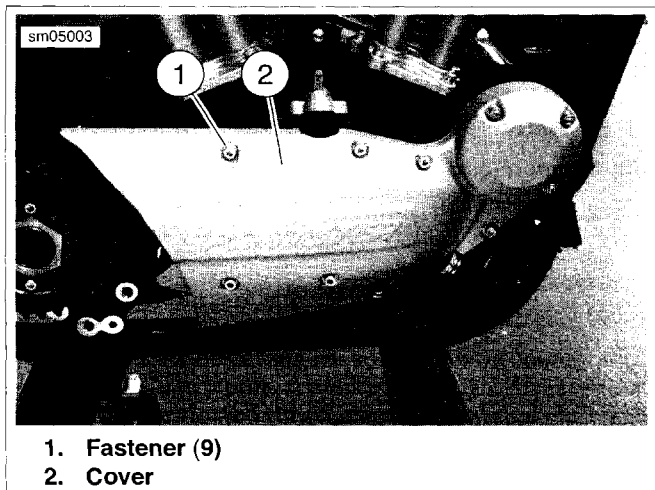

Figure 3-71. Oil Pump Cover: XR Models
5. See Figure 3-71. Remove nine fasteners (1) and remove cover (2).